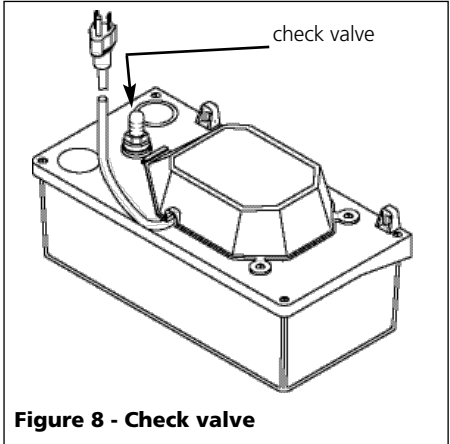

Figure 8 - Check valve
1. Disconnect discharge line from check valve – see Figure 8.